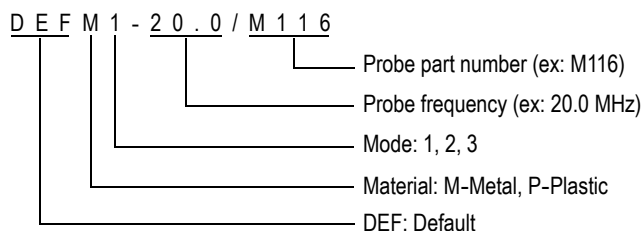

Figure 5-3 Selecting a default single element transducer setup
- c) In the **DEFAULT** screen for the type of probe that you are using (see the example shown in Figure 5-3 on page 59), in the list of available default setups, highlight the setup for the transducer that you are using.